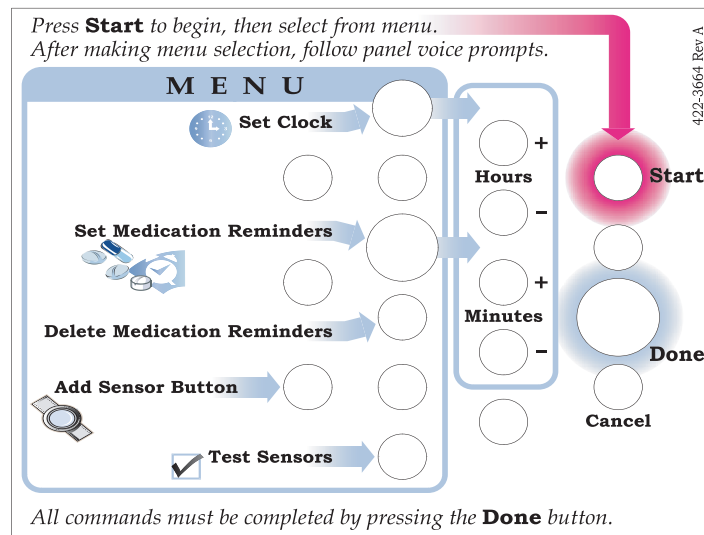

Figure 7. Panel Menu
2. Press **Start** (see Figure 7). The panel announces “Please select from menu.”